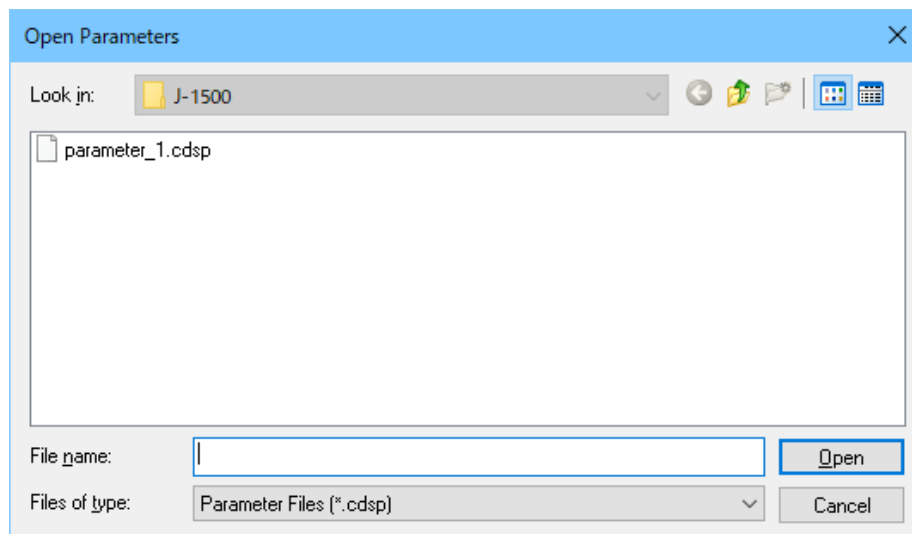

Figure 4.12 [Open Parameters] dialog box
- (3) Select the [Review] and/or [Approval] check boxes, type the password, and then click the <Sign> button.
- (4) Start the [Spectra Measurement] program, set the data mode and select [Open Parameters...] from the [File] menu. The dialog box in Figure 4.12 is displayed.